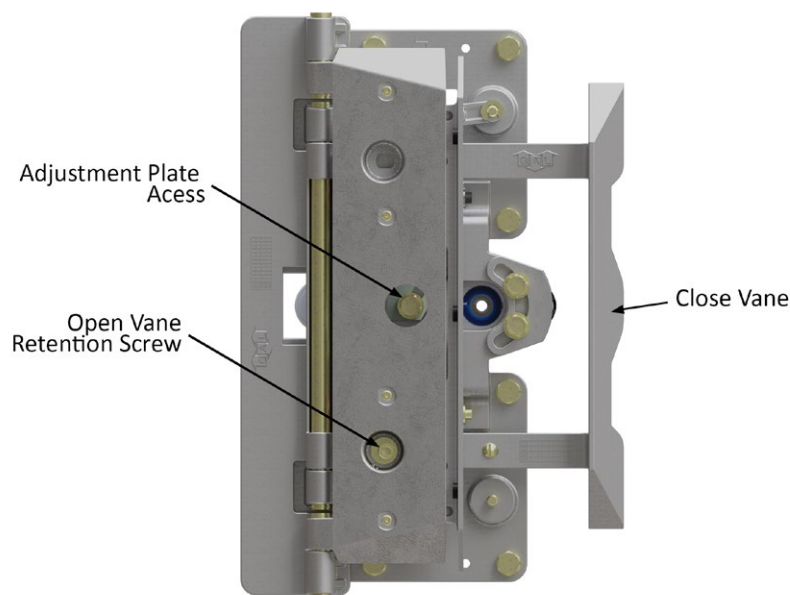

Figure 11: Components for setting the Adjustment Plate.
- i. With the car door closed and the clutch fully expanded, hold the Close Vane in the retracted position (bottomed out against the Clutch Link). See **Figures 11 and 12**.
- ii. Access the Adjustment Plate screw through the hole in the Open Vane (indicated above in **Figure 11**) and loosen the screw. With the Close Vane still pinned against the Clutch Link, set the Adjustment Plate so that it is in contact with the Nylon Roller.
1. If you are having difficulty setting the correct position, it may be necessary to open the Open Vane to access the plate. Unscrew the Open Vane Retention Screw (indicated in Figure 11), to allow the Open Vane to swing open.
16. With the car doors fully closed, adjust the close vane adjustment plate so that the close vane is fully retracted, as shown in **Figure 11**.